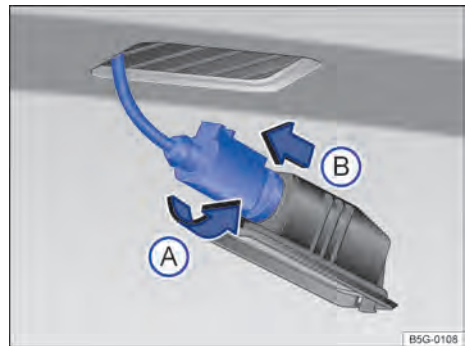

Fig. 171 Number plate light: remove the bulb socket.
- ③ Rotate the socket **counter-clockwise** → Fig. 171 Ⓐ and remove the socket along with the bulb Ⓑ.
- ④ Pull the defective bulb from the socket to remove it.